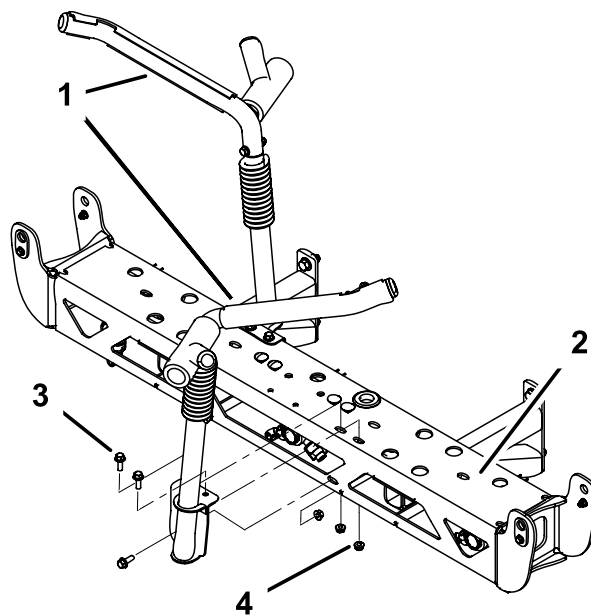

Figure 12
1. Install the boom transport cradles to the center boom assembly using 6 bolts (3/8 x 1-1/4 inches) and 6 locknuts (3/8 inch) as shown in Figure 12.